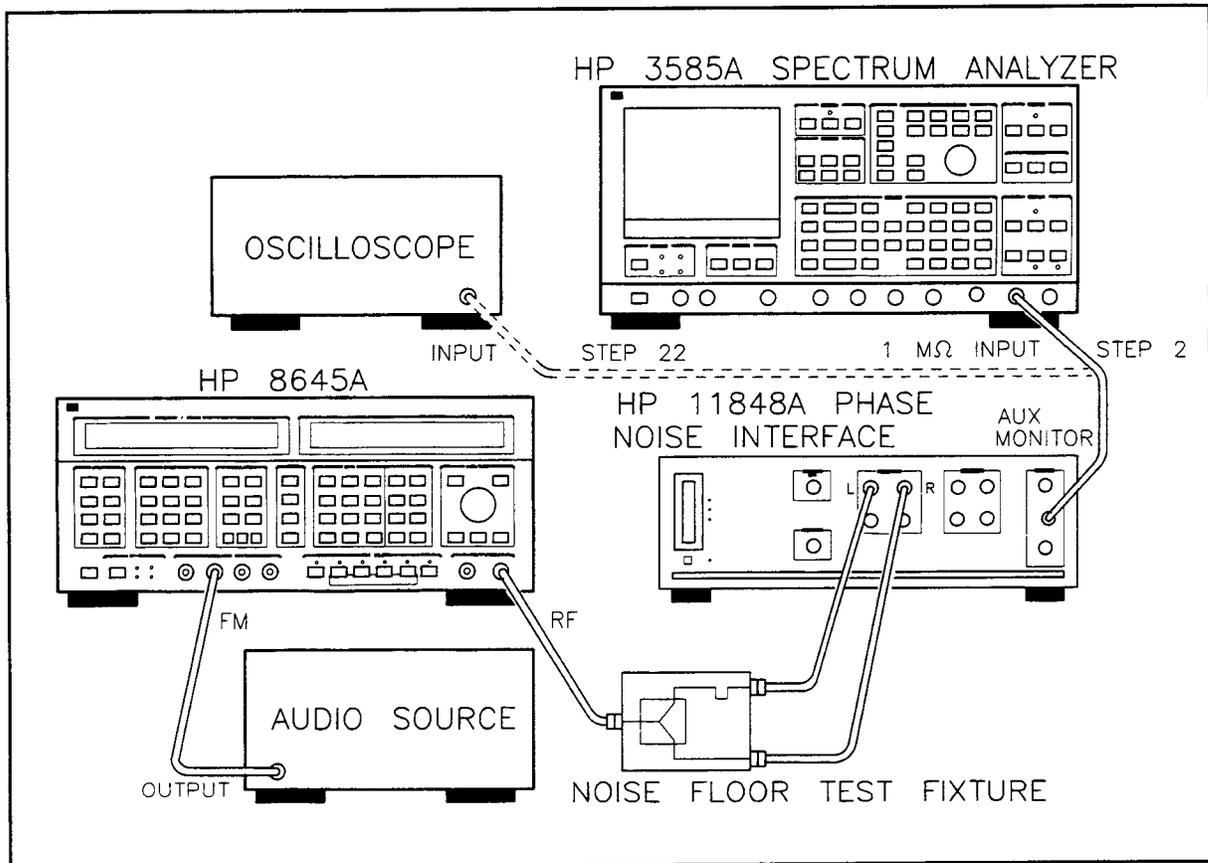

Figure 3-2. *FM (High Deviations and Rates) Test Setup*
2. Connect the equipment as shown in figure 3-2. Check that the SPECTRUM ANALYZER output connector on the front panel of the HP 11848A Phase Noise Interface is terminated in 50 Ω . Also, check that the delay line connectors are tight.
14. Set the audio source to +10 dBm at 50 kHz and connect it to the Signal Generator's MODULATION INPUTS FM connector. (Refer to Figure 3-2.)
22. Connect the auxiliary monitor output of the interface to the high impedance, ac coupled input of the oscilloscope. (Refer to figure 3-2.)